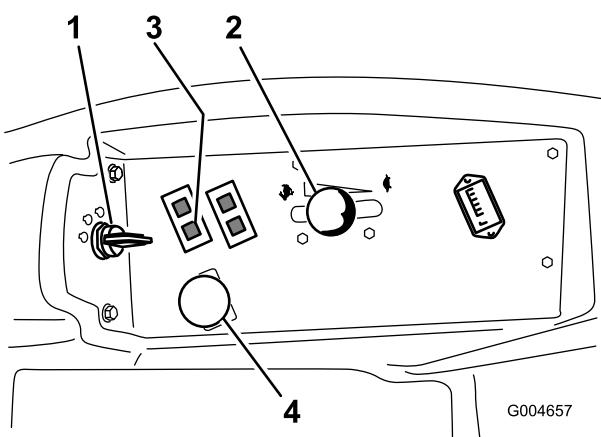

Figure 14
5. Move the throttle lever midway between the Fast and Slow positions (Figure 14).